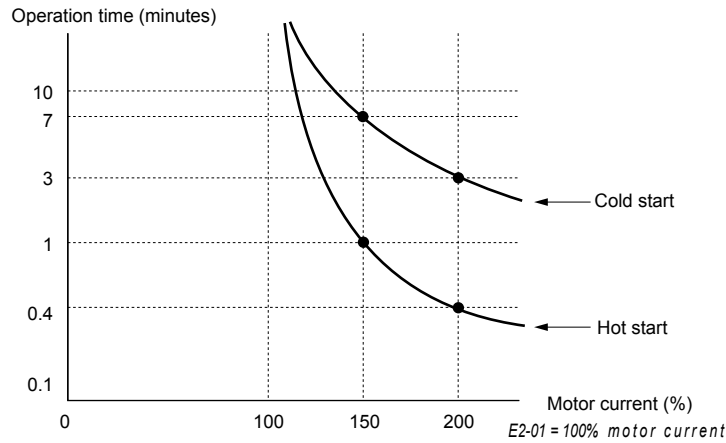

Figure 5.74 Motor Protection Operation Time
- **Figure 5.74** shows an example of the electrothermal protection operation time using a general-purpose motor operating at 60 Hz with L1-02 set to one minute.